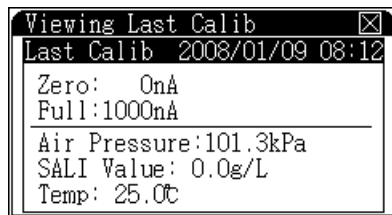

Figure 28 Viewing Last Calib
- 1 In the initial state, press **[View]**, select **Last Calib Data**, and then press **[Enter]**. The display is shown in Figure 28. The upper area displays last calibration data. The bottom area displays current calibrated parameters.